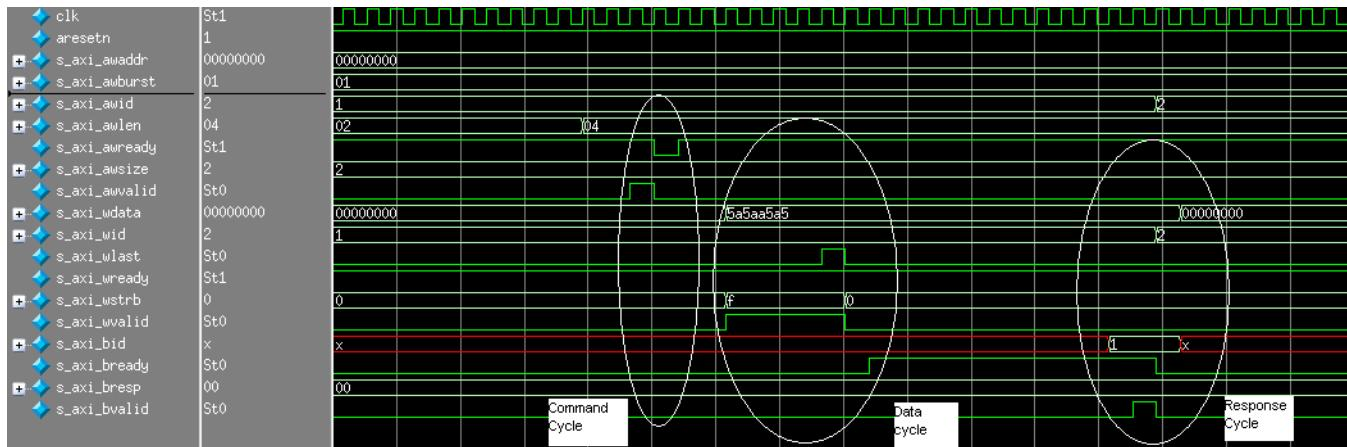

Figure 1-26: AXI4 Interface Write Cycle
**Figure 1-26** shows the simple write transaction being performed on the AXI4 interface. This transaction consists of a command phase, a data phase, and a response phase. This follows the standard AXI4 protocol.